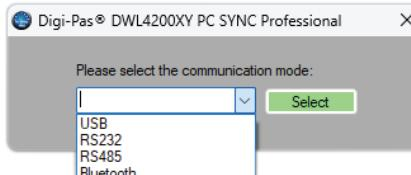

Figure 20. Select mode from the drop down menu
2. Connect the custom cable with sensor cord and ES-U-3001-M converter as in following connection pinout illustrated in Figure 20.
- Assuming steps stated in 3.2 Configuration of Sensor Module(s) with Control Box and 4.1 Installation of the DWL4x00XY PC Sync Software have been done in this stage. Open PC SYNC software and select the desired mode from the drop down menu as shown in Figure 20. In this example, RS485 is selected.